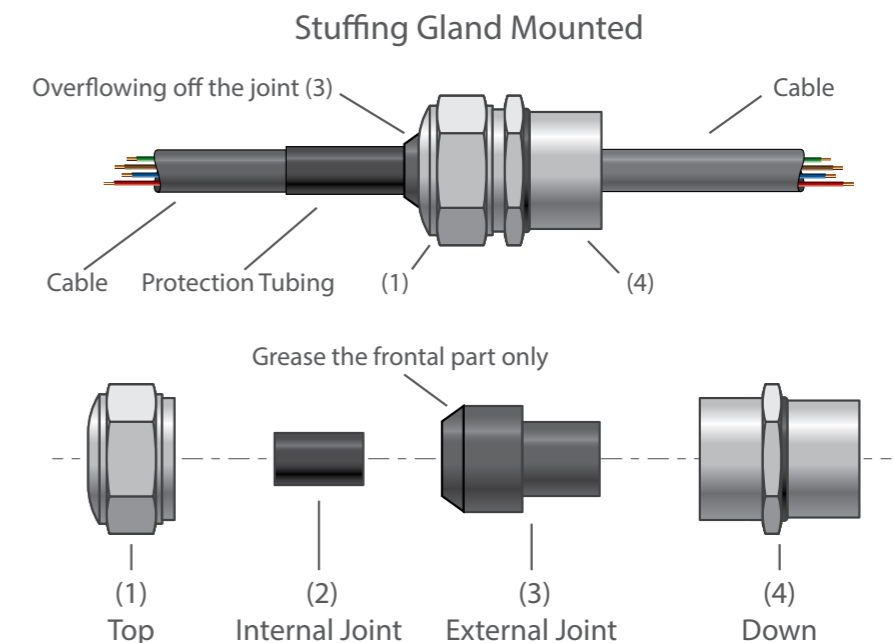

Fig.2-7 Stuffing gland (Overview and separated)
3. Pass the cables into the stuffing gland by proceeding as follows (see Fig.2-7):
- a. Unscrew element (1) Counterclockwise. Element (4) must not be removed from the housing.
- b. Remove joints (2) and (3) from element (1). These two elements allow the stuffing gland to adapt to various diameters of cable. Element (2) can be removed from element (3) by simply pushing it outwards.
- c. Pass the cables through elements (1), (2) (if used), (3) and (4).
- d. Reassemble the elements of the stuffing gland and, before replacing element (1), lubricate the seal (3) with silicone as indicated (see Fig.2-7). Tighten element (1) so that it projects beyond joints (2) and/or (3) to provide the degree of seal required.
- c. Pass the cables through elements (1), (2) (if used), (3).
- f. Reassemble the elements of the stuffing gland (take care that the shield remains in place) and, before replacing element (1), lubricate the seal (3) with silicone as indicated (see Fig.2-7). Tighten element (1) so that it projects beyond joints (2) and/or (3) to provide the degree of seal required.